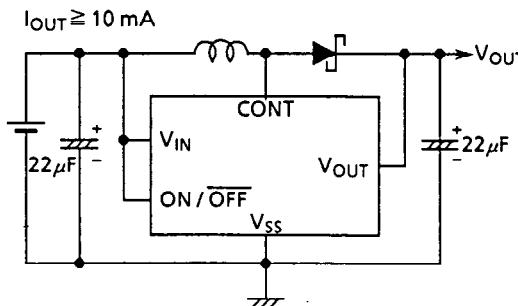
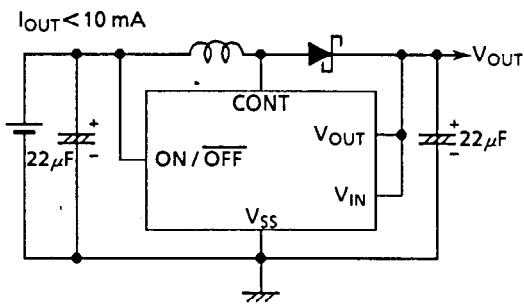

Figure 12
Figure 13
The difference between Figures 12 and 13 is a  $V_{IN}$  connection. The connection to be used depends on the purpose. The connection shown in Figure 12 is suitable for high output current ( $\geq 10$  mA). The connection shown in Figure 13 is suitable for low output current ( $I_{OUT} < 10$  mA) because minimum operating supply voltages is reduced. (See the supply voltage-output voltage characteristics on the next page. Use RCH855-47 μH manufactured by Sumida Electric for the coils and D1NS4 for the external diode.)
$V_{IN} \neq V_{OUT}$  (in the circuit shown in Figure 12)
$V_{IN} = V_{OUT}$  (in the circuit shown in Figure 13)
- Do not apply a supply voltage of less than 0.9 V at  $V_{IN}$  in the standard circuit shown in Figure 12. If a voltage of less than that is applied, the input current may increase rapidly.